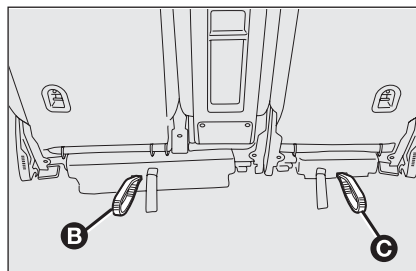

fig. 115
The rear seat is of the double-seat type. It is possible to move the rear seat backwards or forwards from the boot using handles **B** or **C**-fig. 115; pull the handle and at the same time move the seats forwards. This makes it possible to extend the boot capacity.
- ☐ make sure the seats are completely in backward position by means of handles **B** or **C**-fig. 115;
*Never pull tapes **B** or **C**-fig. 115 with seats in load position as they will slide vertically thus hindering seat repositioning.*